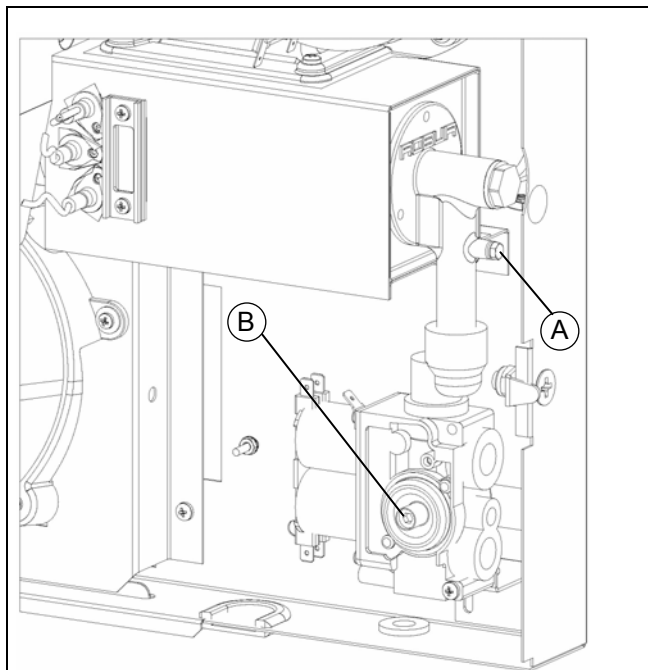
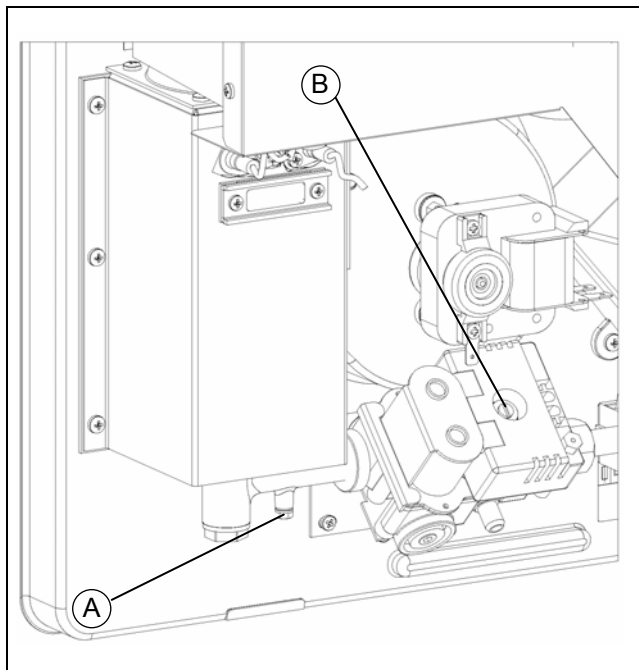
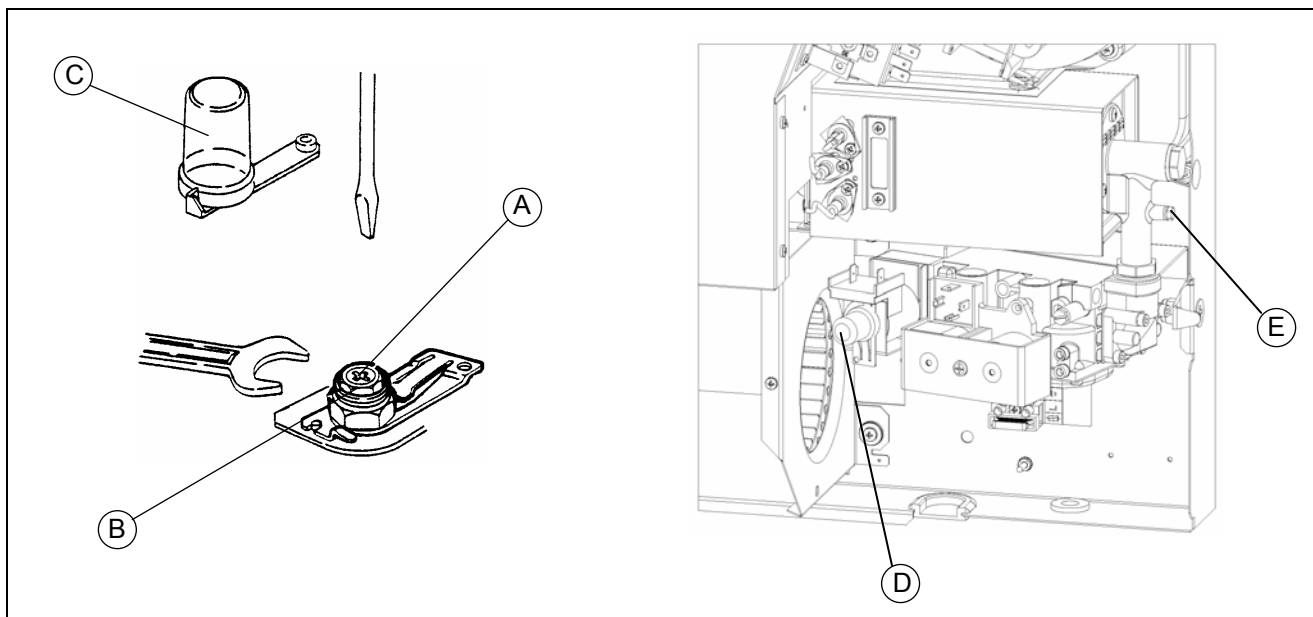

Figure 24 – VALVE MANIFOLD MODELS 4001, 4002, 5001 AND 8001
Figure 25 – VALVE MANIFOLD MODELS 3001 AND 3002
Figure 26 - VALVE MANIFOLD MODELS 5002 AND 8002
1. Remove the sealing screw, connect a pressure gauge in A (see Figure 24 or Figure 25).
4. Regulate the feeding pressure to the burner at the requested value (see Table 1 and Table 2) by means of a B regulator (see Figure 24 and Figure 25). Proceed clockwise to increase pressure and in the opposite way to decrease it (for operation, use hex socket wrench).
2. Take off the plastic cover of the gas valve (see Figure 26).
3. Connect a pressure gauge in position E (see Figure 26).
5. Regulate the pressure to the burner using B screw (see Figure 26) up to 9 mbar (for 5002 model) and up to 7,1 mbar (for 8002 model). Move clockwise to increase the pressure values and in the opposite way to decrease them (use a setscrew wrench no. 10).
4. The maximum operating pressure only depend on the distribution network pressure level which needs to be adequately regulated at 30 mbar (for G30 gas) or at 37 mbar (for G31 gas) by means of external stabilizers not connected to the unit. Therefore, the pressure regulator B (see Figure 24 or Figure 25) is not to be considered. If the desired setting can not be reached, try with the second stage regulator.
5. Disconnect the pressure regulator tightening completely screw B (see Figure 26). In this way the pressure to the burner is directly depending on the distribution network pressure level. Make sure it is properly regulated at 30 mbar (for G30 gas) or at 37 mbar (for G31 gas). The network pressure level can be reduced by using a special first stage pressure reducers placed close to the liquid propane tank (for reduction down to 1,5 ate). While a second stage reducer is needed for further decrease to 0,03 or 0,037 ate. This second reducer should be located close to the unit but always outside the building.
4. Safely tighten the pressure regulator "B" (see Figure 24, Figure 25 or Figure 26).